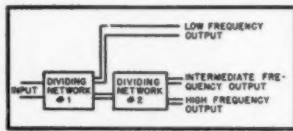

Fig. 11. Block diagram of three-way dividing network.
have been written on the design of filter type dividing networks. The element values for these networks also may be designed using the simple methods described. For example, a three-way network³ may be evolved by noting that it is composed of two separate dividing networks, as shown in Fig. 11. The reactances of the elements are determined by applying the theory of fractional or π termination⁴ whereby series elements Z_{cd} in the low-pass filter may be omitted because they are represented to a good approximation by portion Z_{cd} of the high-pass filter for frequencies in the stop band region of the high-pass filter. Similarly, the series elements Z_{ab} of the high-pass filter may be omitted since they are represented in the circuit by the portion Z_{AB} of the low-pass filter for frequencies in the stop band region of the low-pass filter, as illustrated in Fig. 12, (A) and (B). The element values and the complete circuit of the Douglas three-way network are reproduced at (C).